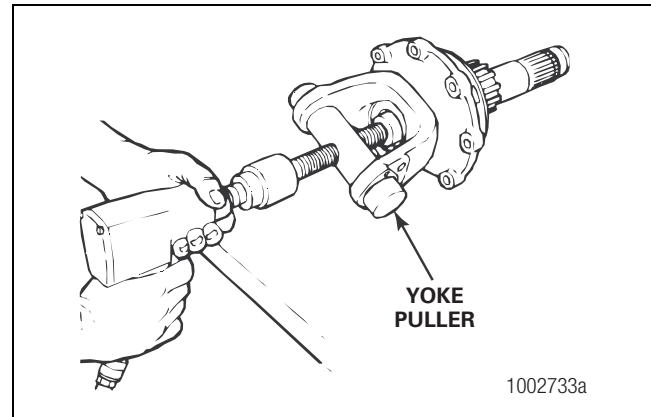

Figure 2
6. Remove the yoke nut and washer. Use a puller tool to remove the yoke or flange from the shaft. Do not use a hammer or mallet, which can damage components. Figure 2.